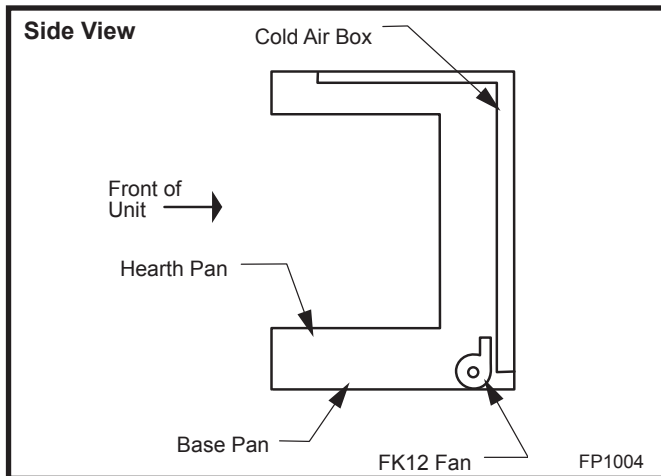

Fig. 62 FK12 Fan Kit placement.
2. Install FK12 fan in back of unit between hearth supports. (Fig. 62)